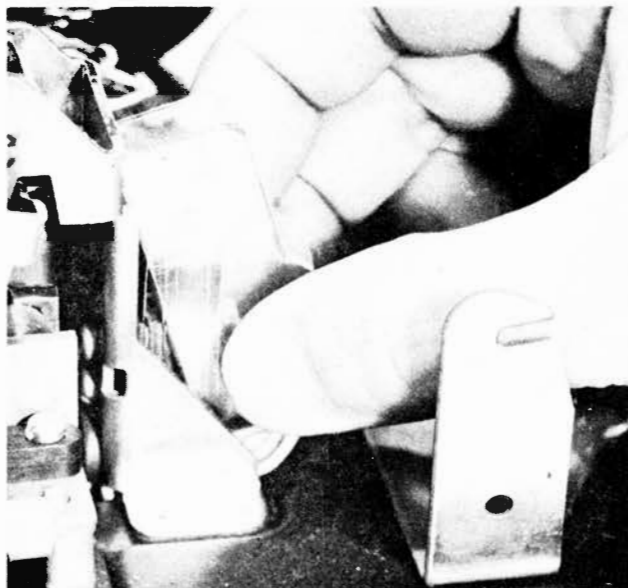

Fig. 33 — Switch-Cover Assembly
4.10 The switch cover is held in place by ears on the cover which engage indentations on switch assembly mounting (see Fig. 33).